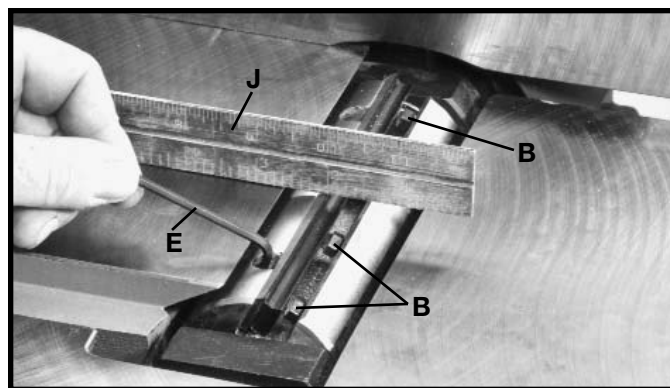

Fig. 58
12. Lower the infeed table and place a straight edge (J) Fig. 58, on the outfeed table extending over the cutterhead as shown.
13. Rotate the cutterhead by hand until the knife is at its highest point at each end of the cutterhead. To raise the knife, use wrench (E) Fig. 58, and turn raising screw clockwise until the knife just touches the straight edge (J) on each end and center of the cutterhead when the knife is at its highest point. When you are certain the knife is adjusted properly, tighten the four locking screws (B) by turning them counterclockwise.